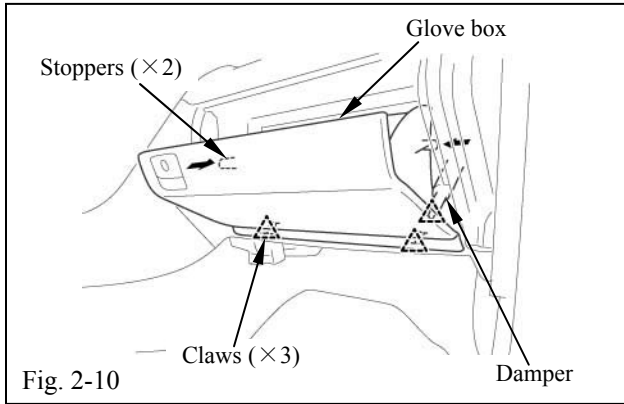

Fig. 2-10
- (1) Disengage the claw from the damper (Fig. 2-10).
- (2) Disengage the 2 stoppers and 2 claws and remove the glove box (Fig. 2-10).